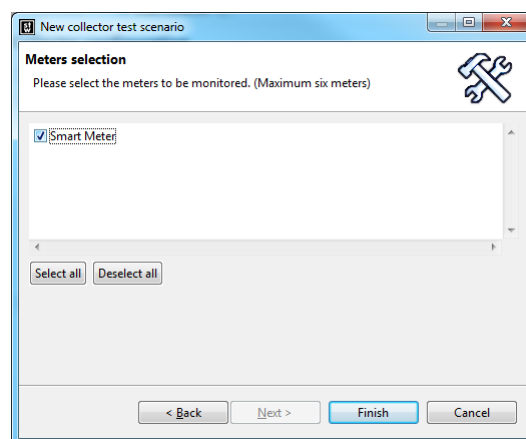

Figure 33: Select 'Smart Meter' meter
5. Press 'Next' and set the checkbox for the 'Smart Meter' meter. (refer to figure 33)